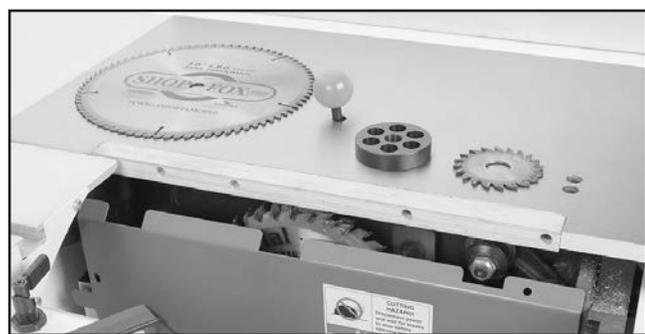

Figure 88. New zero-clearance table insert installed to be cut with a dado blade.
- Mount the new table insert into the table and check to make sure that it is flush with the top of the table. If necessary, remove the insert and sand the top of it down until it will mount up flush with the table top (see **Figure 88**).